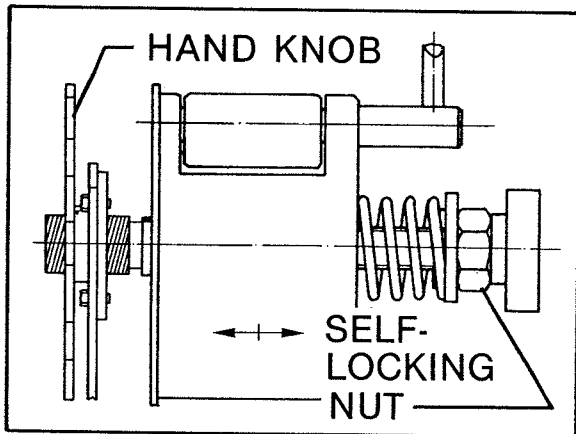

FIGURE 13
1) Friction Brake - Refer to figure 13.
- a) Loosen jam nut or hand knob (figure 13) behind tape drum on tape drum shaft.